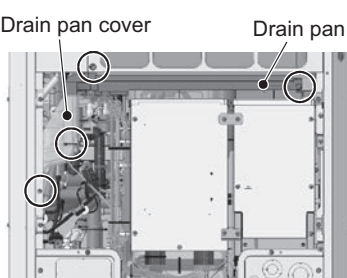

Figure 3
- (3) Remove the drain cover by unscrewing the screw and cutting the cable tie. (See Figures 3 and 4.)
- (4) Remove the drain pan by unscrewing the 2 screws. (See Figure 3.)